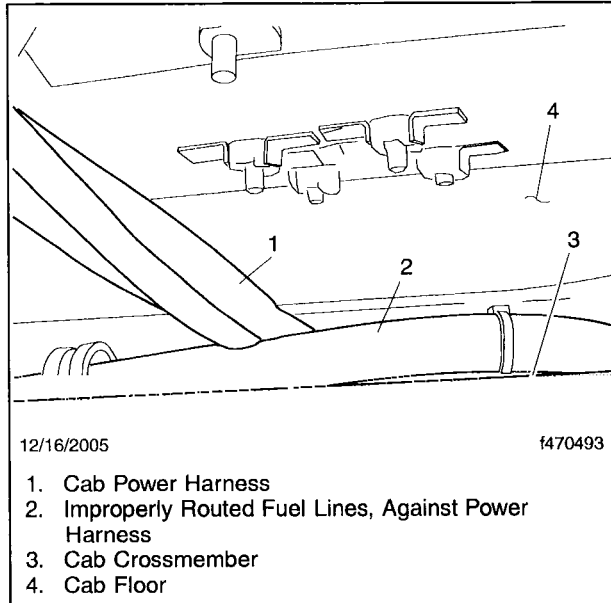
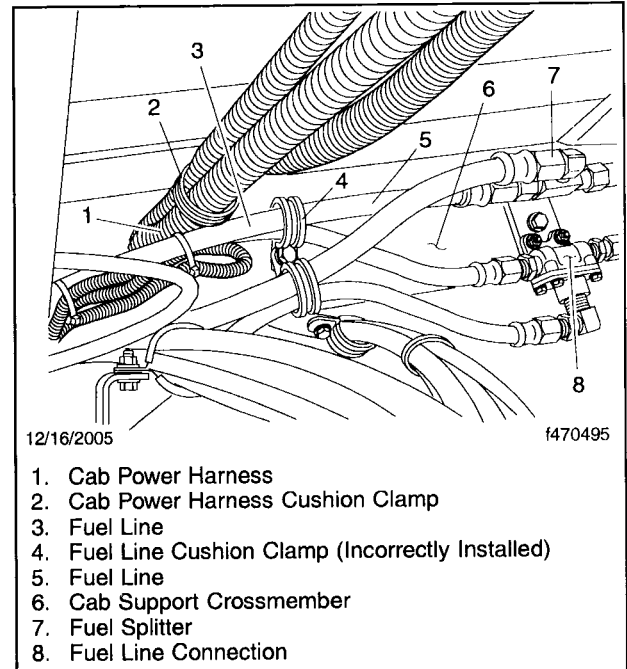
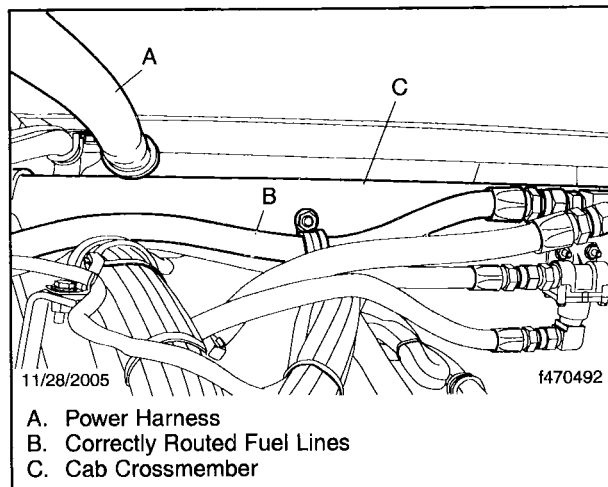

Fig. 1, Incorrect Fuel Line Routing, Power Harness Touching Fuel Lines as Seen Looking Toward the Rear, Under Driver's Side Cab
Fig. 2, Incorrect Fuel Line Routing as Seen From Under the Vehicle, Looking Forward
Fig. 3, Correctly Routed Fuel Lines, Seen From Driver's Side Under Cab
Look along the power harness bundle that passes down and under the driver's side cab. See **Fig. 1** and **Fig. 2** for views of incorrect fuel line routing; see **Fig. 3** for correctly routed lines.
5. Look for the fuel lines where they are mounted along the cab crossmember. If a fuel line is visible along the top of the crossmember where the power harness passes over the crossmember as shown in **Fig. 1**, it is incorrectly routed.
3. Move the battery box out of the way, to give access to the area indicated in **Fig. 2**.
5. Use cushion clamp P/N WWS 7790-3420 to hold the two upper fuel lines below the mounting stud on the cab crossmember as illustrated in **Fig. 3**. The cushion clamp should be mounted with its clamping area below the fastener.